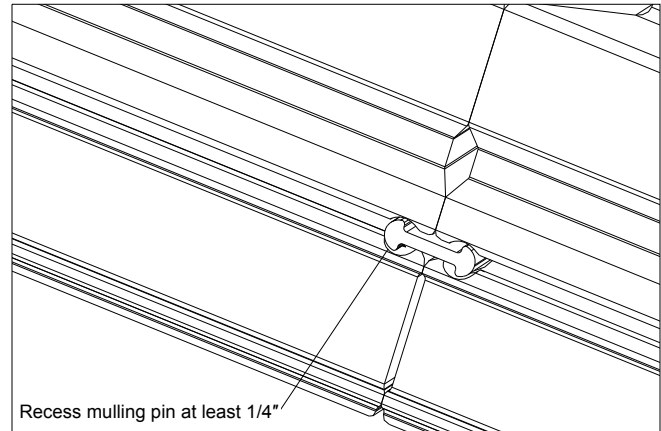

Figure 20
2. Slide aluminum mulling pin into nailing fin drip cap kerf. Make sure mulling pin is recessed at least 1/4" on each end to allow for sealant placement and horizontal mulling pin application later. See figure 20.